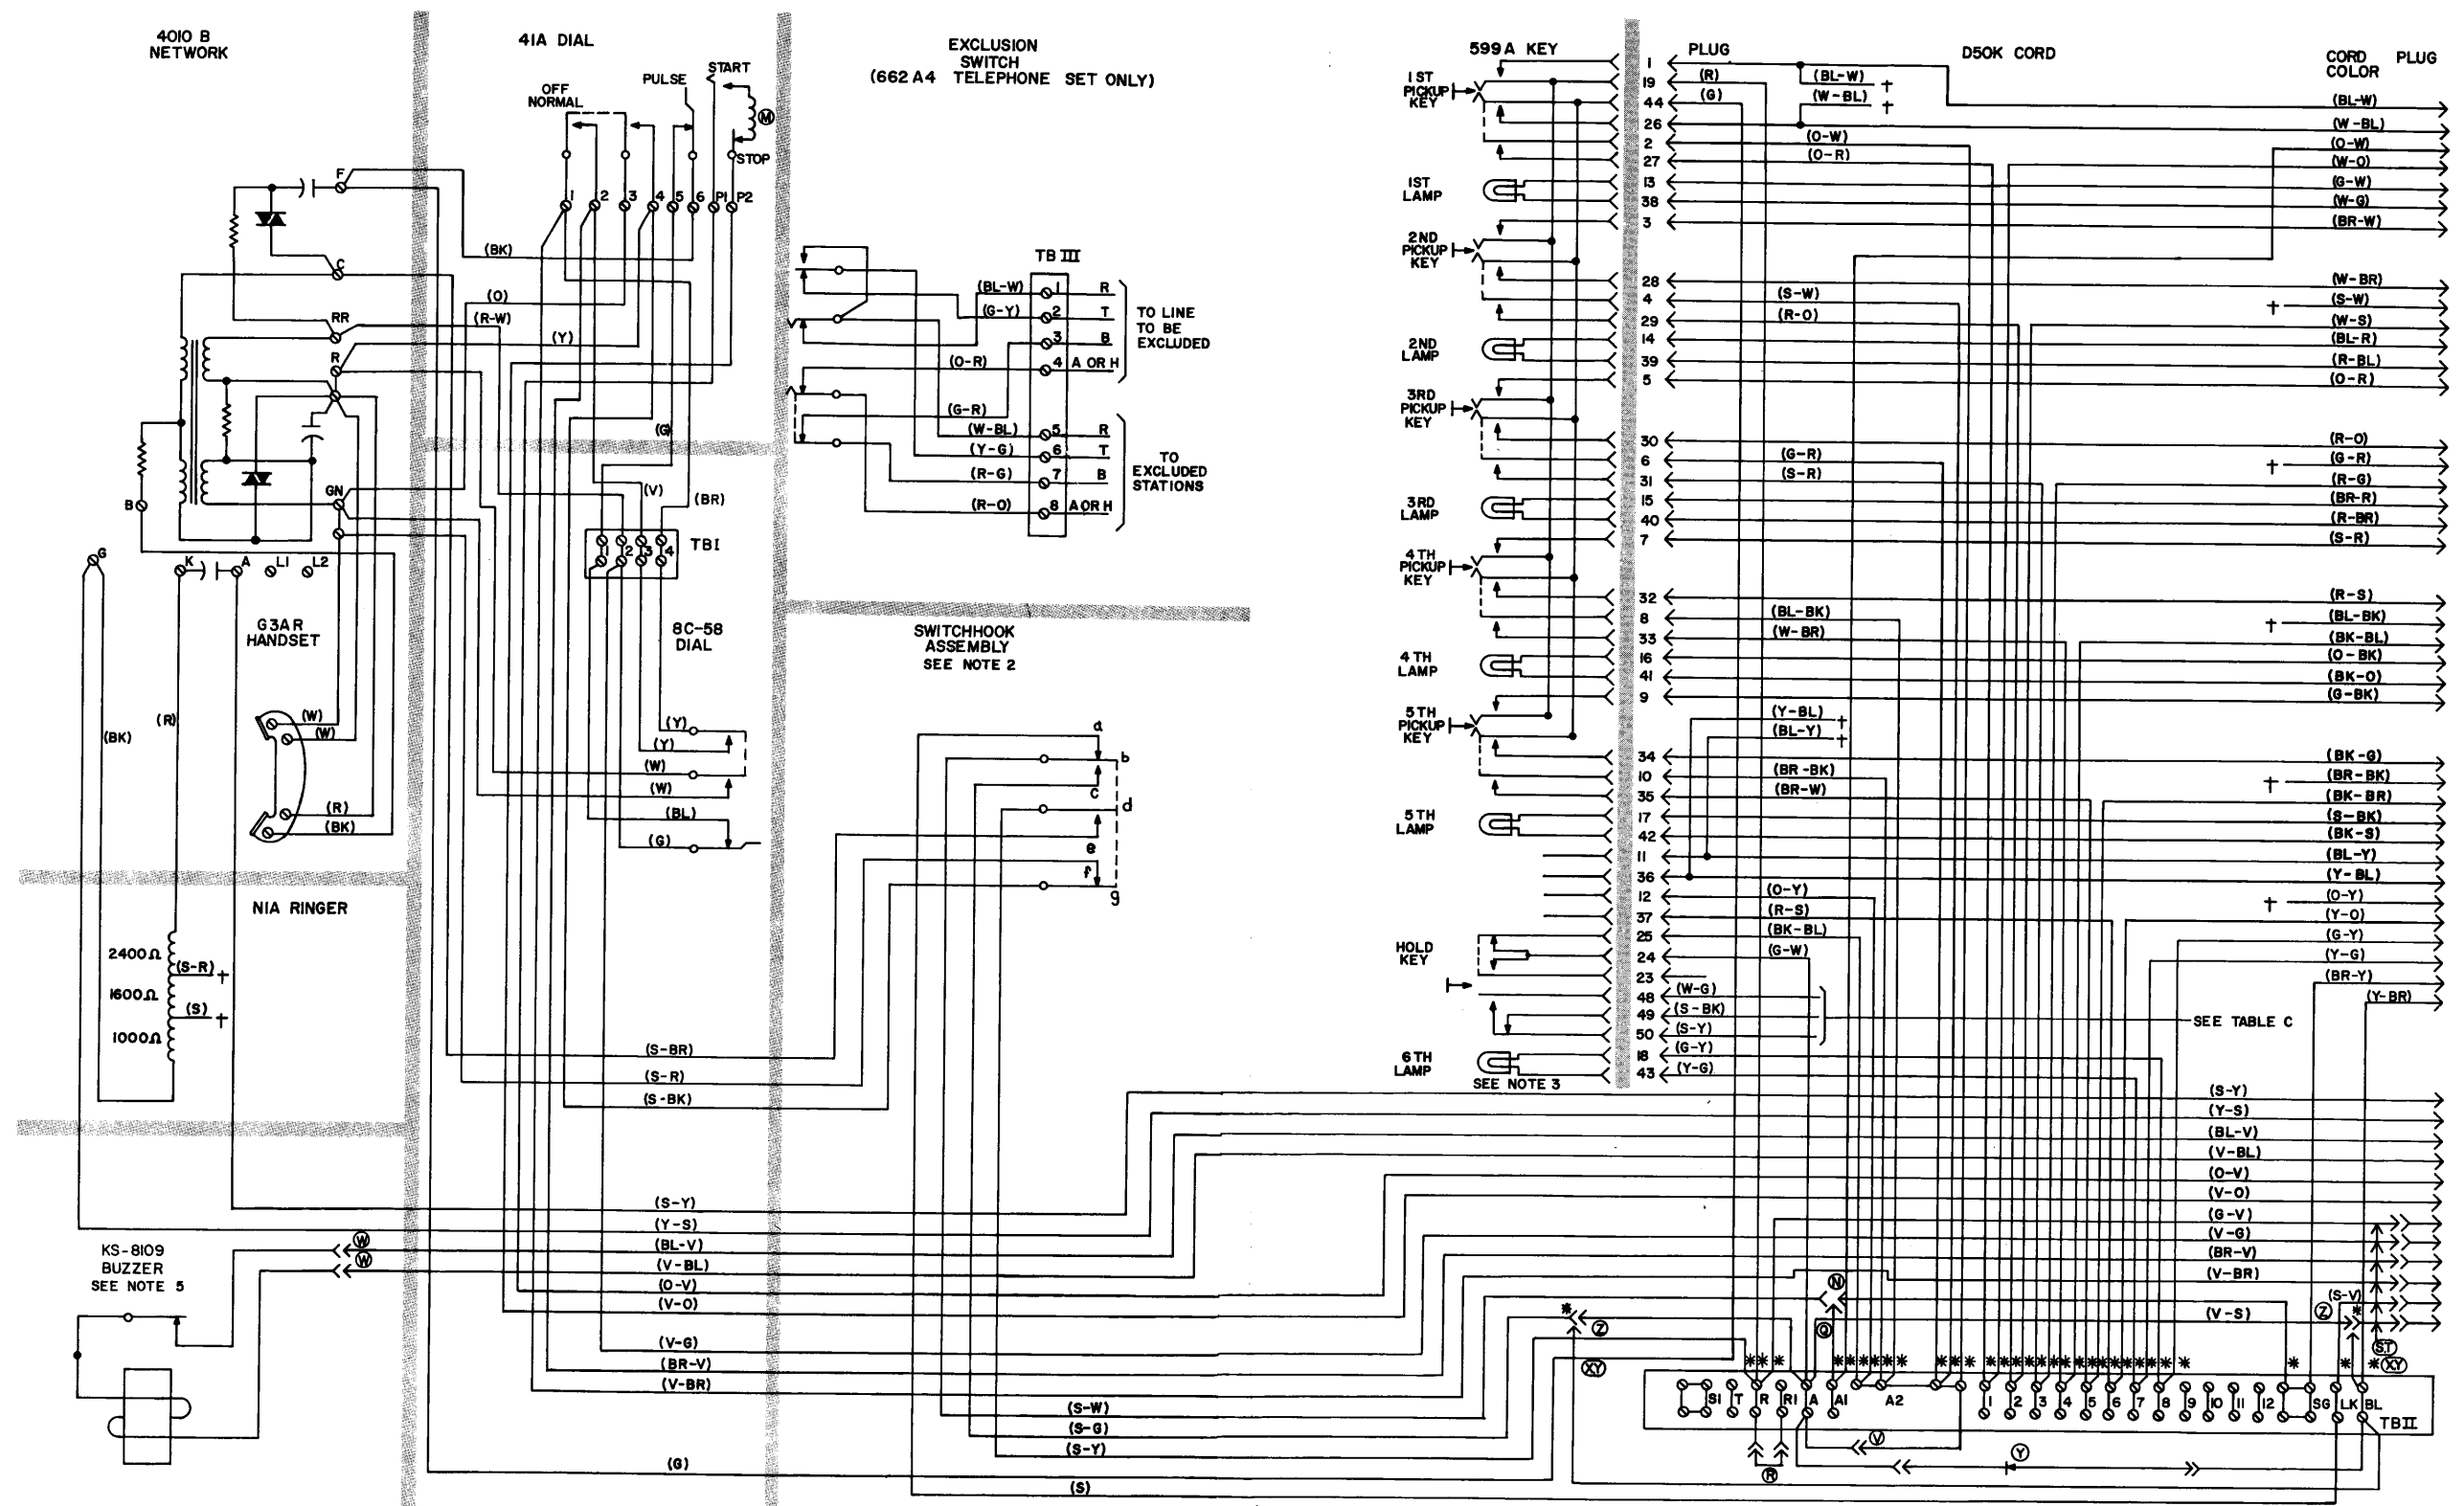

Fig. 7 - 662A1 and 662A4 Telephone Set
6.01 Connections for 662A1 and 662A4 telephone sets are shown in Fig. 7.
6.04 The schematic drawings (Fig. 7, 8, and 9) show only a portion of the 41A dial circuit. See section entitled Station Dials, 41 Type, for complete schematic drawing and description of dial.